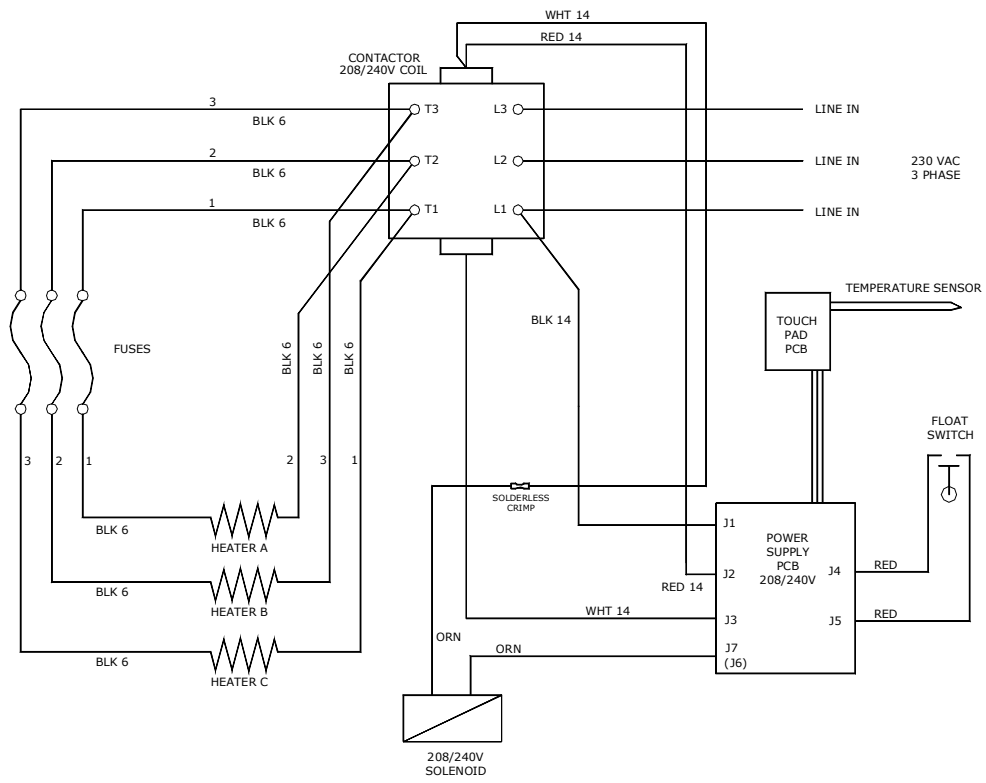

Figure 3
2. Connect the 230V 3 phase A.C. electrical supply to L1, L2 and L3 on the junction block, if present, or directly to the contactors if the junction block is not present (figure3).